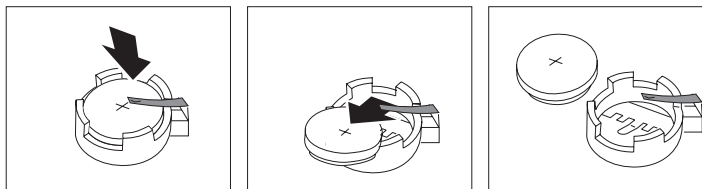

Figure 112. Removing the SAN Volume Controller 2145-4F2 system-board CMOS battery
4. Use a finger to lift the battery clip above the battery, which is shown in Figure 112.